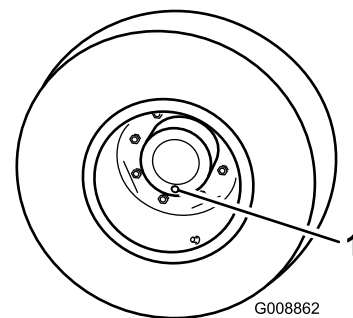

Figure 43
- With the machine on a level surface, position the wheel so that the check/drain plug (Figure 43) is at the 6 o'clock position.